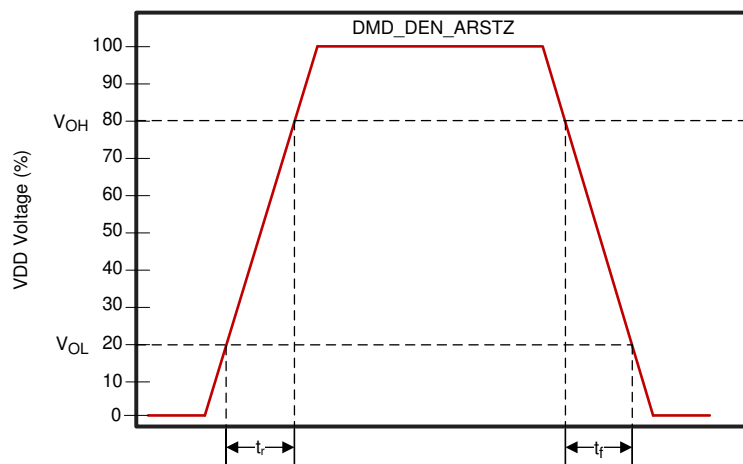

Figure 6-9. LVCMOS Rise, Fall Time Slew Rate
- (1) See Figure 6-9 for rise time and fall time for LVC MOS.